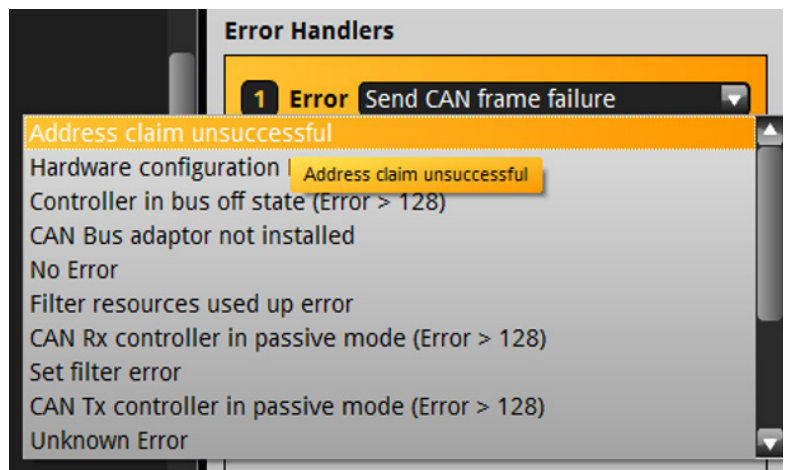

Figure 55. Reconfigurable Address Claim Process.
5. Select the handle in the “Error” combo box as seen in Figure 55.